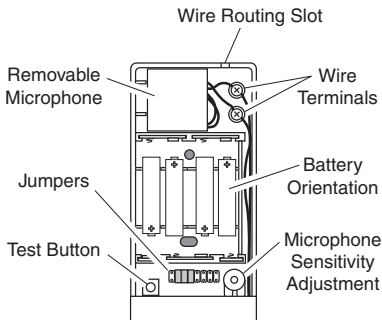

Figure 2
2. Install 4 type “AAA” batteries (not provided). Make sure batteries are oriented properly as shown in bottom of battery compartment (see Figure 2).